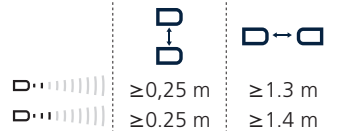

Fig.2: Assembly distances
- The assembly distances shown in fig. 2 for two or more sensors should not be fallen below in order to avoid mutual interference.